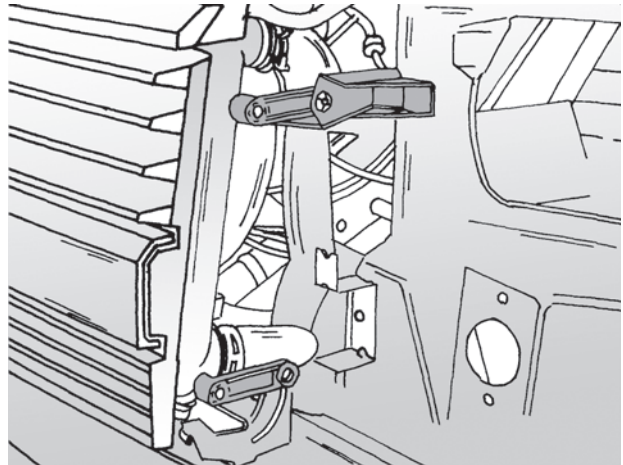

Fig. 1.4. - The radiator is secured on the left-hand and right-hand sides at the positions shown by the arrows.
- Knock the pins out of the spreader clips on the L.H. and R.H. sides of the radiator and remove the spreader clips from the radiator mounting. Fig. 1.4 shows where the pins are located. Disconnect the electrical lead from the temperature switch on the radiator and the connector for the radiator cooling fan motor. Completely remove the radiator. Remove the hoses from their connections to create enough room for the removal of the radiator assembly.